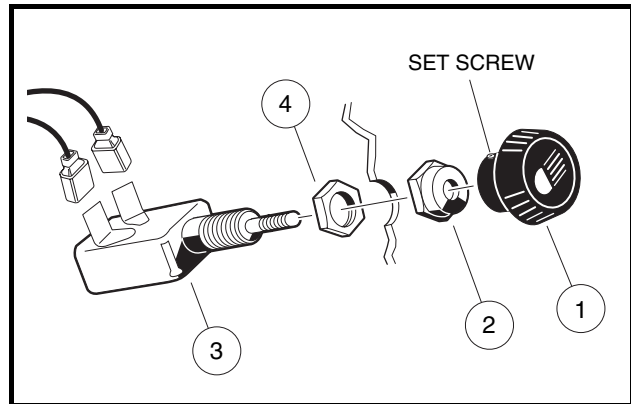

Figure 12-31 Light Switch
3. Loosen the set screw locking the light switch knob (1) to the shaft (**Figure 12-31, Page 12-27**).
6. Remove the outer nut (2) from the light switch (3) and remove.
2. Thread the check nut (4) onto the switch until an equal number of threads show on both sides. Install to the dash panel with nut (2) on the outside of the dash and tighten the nut to 14 in-lb (1.6 N-m) (**Figure 12-31, Page 12-27**).